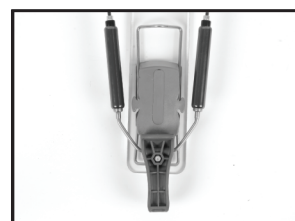

Figure 7
- 3) Always check to make certain that the Hardwire heel assembly is centered on the ski to maintain even pre-load on the spring cartridges. If the spring cartridges come out of adjustment, simply rotate to bring back to center to maintain adequate load and maximum performance. (SEE FIGURE 7)